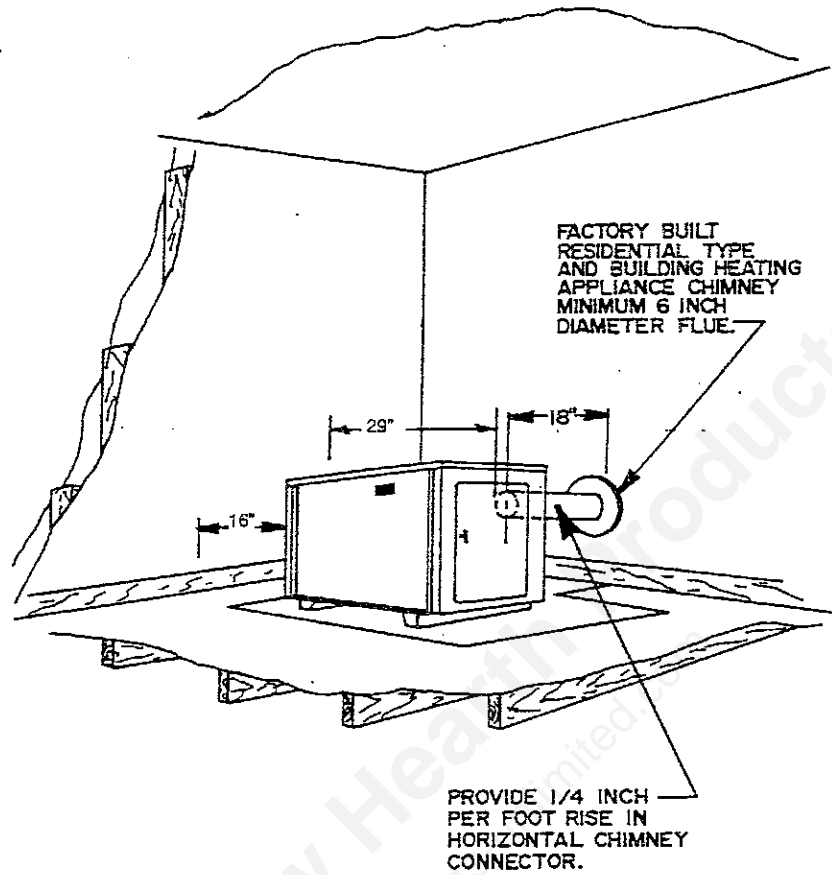

FIGURE 4 - CONNECTION TO MASONRY CHIMNEY
The chimney connector (pipe from heater to chimney) must be 6 inches in diameter and made from 24 gauge or heavier steel. The length of the chimney connector and number of elbows used should be kept to a minimum. Moisture that might collect in the chimney should be directed to the heater by providing a slope of 1/4 inch per foot in a horizontal run of the chimney connector and installing all pipes with the crimped end toward the heater, (See figure 6). The chimney connector should extend at least two inches into the flue of a factory-built chimney. When making a horizontal connection to a masonry chimney, the connector should extend to the inside face of the vertical flue liner, (see figures 7 and 8). When connecting the heater to a masonry fireplace, the chimney connector should extend into the chimney's liner as shown by the side section view of figure 4. All chimney connector joints should be sealed with furnace cement and secured with No. 8 sheet metal screws as described by the TO SAFELY AND PROPERLY INSTALL THIS HEATER section of this manual.
2. Purchase the 6-inch diameter chimney connector pipes that are required. The pipe should be black or blued steel, 24 gauge minimum. If elbows are needed, use only seamless elbows because seamed elbows can leak smoke. Do not use more than two elbows or the chimney draft will be restricted, (See the CHIMNEY CONNECTOR AND CHIMNEYS section of this manual for details). Number 8 sheet metal screws and furnace cement will also be needed to assemble the chimney connector pipes. If the heater is to be installed to a masonry fireplace as shown by figure 4, you should also obtain the fireplace items called for by figure 4.
10. Depending on your particular type of installation, connect the heater's chimney connector to a masonry chimney as shown by figures 7 or 8, or connect the chimney connector to a metal prefabricated chimney as specified by the instructions furnished with the metal prefabricated chimney or connect the chimney connector to a masonry fireplace as shown by figure 4.